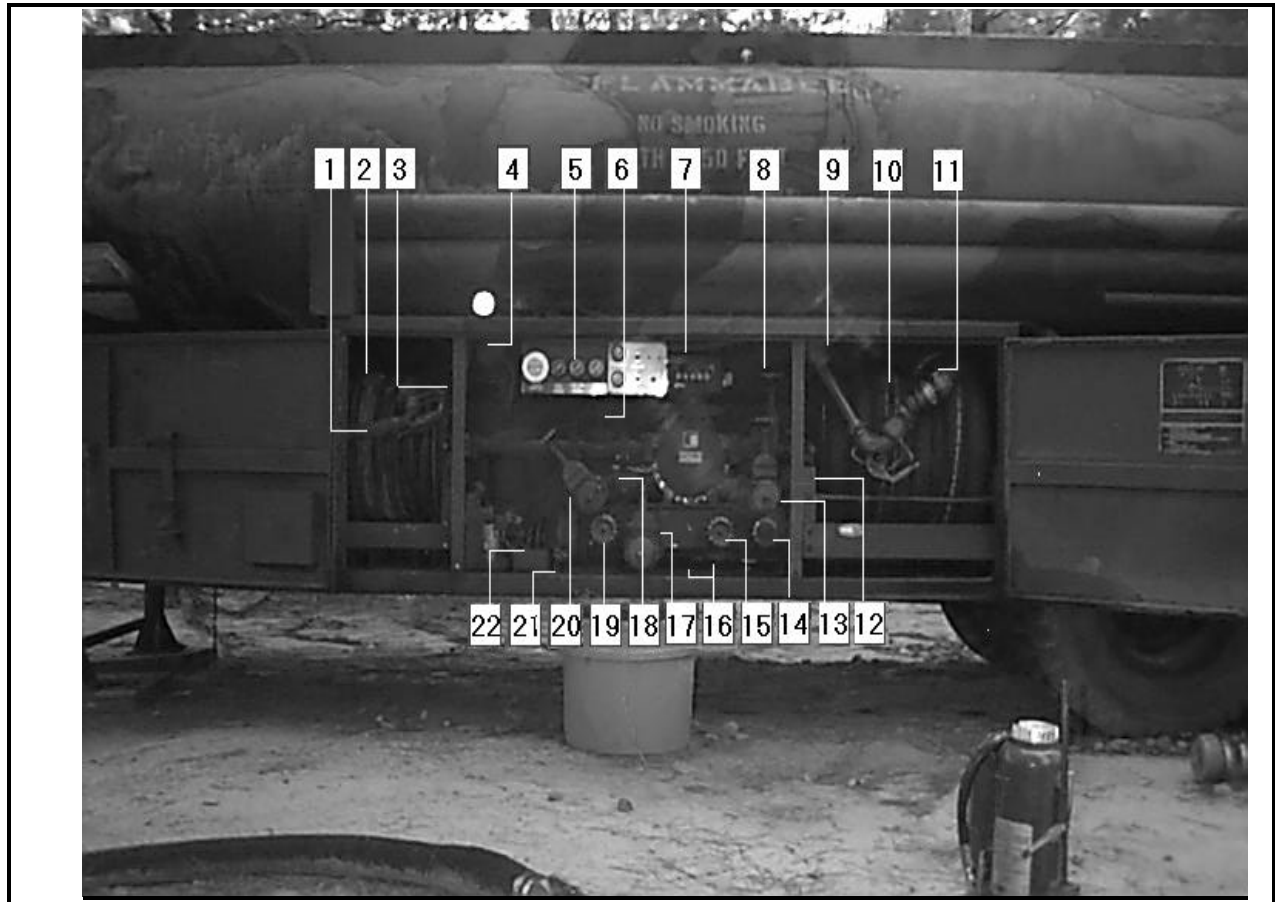
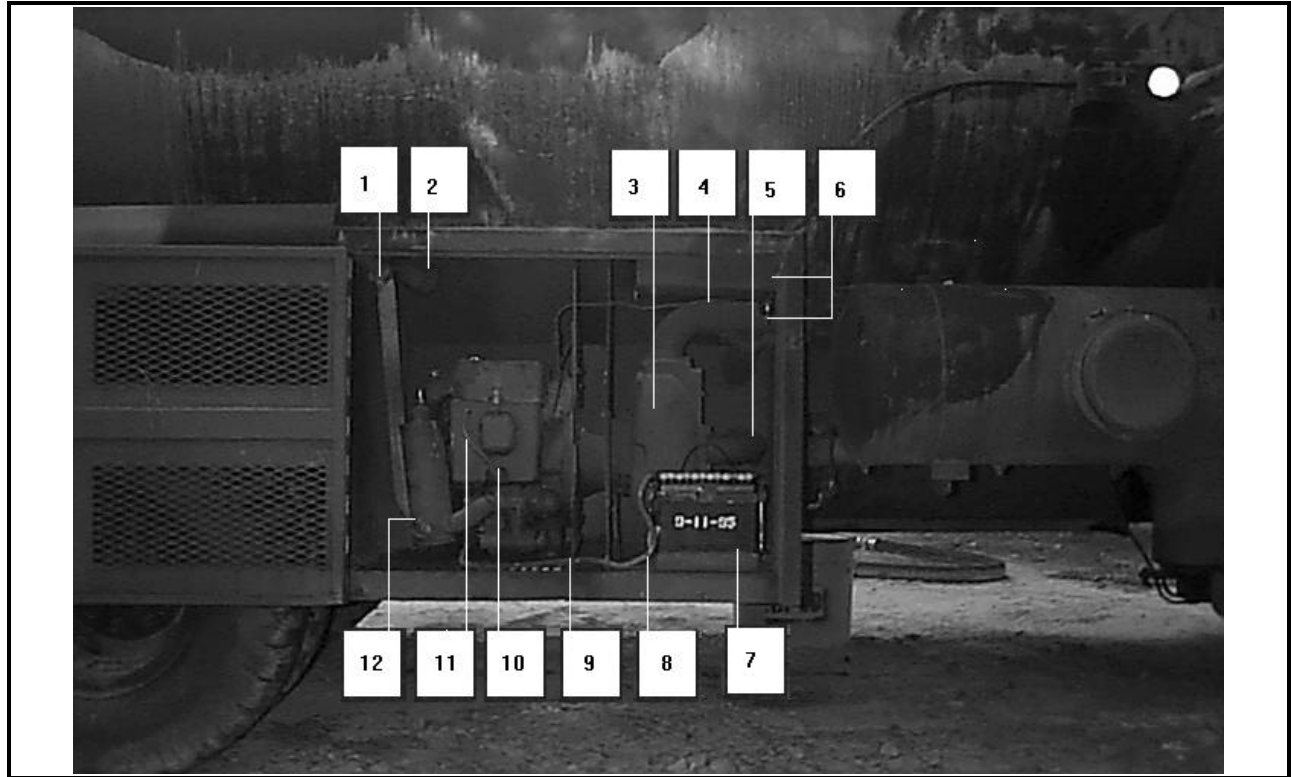

Figure 24-13. Roadside equipment cabinet of the M131A5C tank semitrailer
Figure 24-14. Curbside equipment cabinet of the M131A5C tank semitrailer
manhole covers. An equipment cabinet is mounted on each side of the tank vehicle. These cabinets hold the semitrailer discharge and loading system. The components of this system located in the roadside equipment cabinet are shown in Figure 24-13, page 24-12. Figure 24-14, page 24-13, shows the system components located in the curbside equipment cabinet. A hose compartment is mounted on the tank body above the roadside equipment cabinet as shown in Figure 24-10, page 24-11. The hose compartment is horizontally divided into three tubes which house three 15-foot lengths of suction hose and gage stick.
- **Auxiliary engine and pump assembly.** The auxiliary engine and pump assembly is located in the curbside cabinet as shown in Figure 24-14, page 24-13. It is used to pump product into or out of the compartments. The assembly has a two-cylinder, four-cycle, horizontally opposed, air-cooled engine and a self-priming, 225-GPM centrifugal pump. The pump is connected directly to the engine through a shaft mounted on a bearing. The engine and pump are separated by a fire wall.